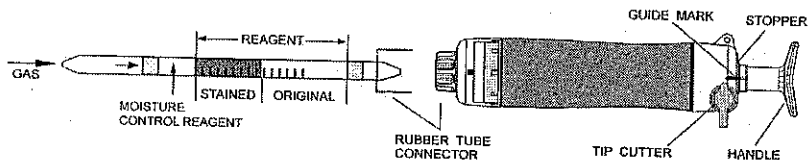

Fig.1
- ① Break both ends of the detector tube.
- ② Insert the detector tube into the aspirating pump securely as shown in Fig.1. (Arrow mark shall point to the pump.)
- ③ Align the guide marks on the shaft and stopper of the aspirating pump.
- ④ Pull the pump handle at a full stroke until it locks and wait for 1 minute or until the completion of sampling is confirmed with the flow indicator of the pump (See descriptions about the flow indicator in the instructions of the pump).
- ⑤ On completion of sampling, read the scale at the maximum point of the stained layer.
- ⑥ When the concentrations are below the scale range, 5 pump strokes can be used to determine these lower concentrations. Then multiply the reading value after the temperature correction by 1/5.